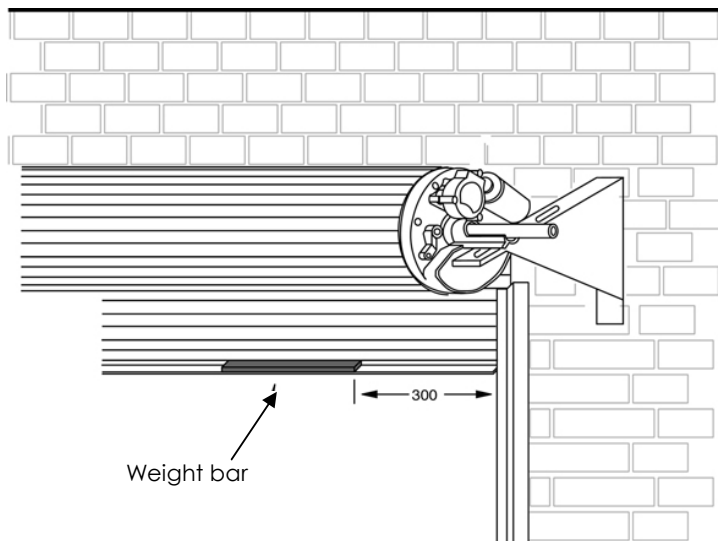

Fig. 9
- 4.1 Weight bars may be required. Their main purpose is to eliminate the possibility of the door curtain ballooning on initial start-up (from the door fully open position). After installing your new opener, if your door balloons on initial start-up then we recommend that you fit one or two weight bars to the bottom edge of your door (total weight 5-7kg) as detailed below. (See Fig. 9).